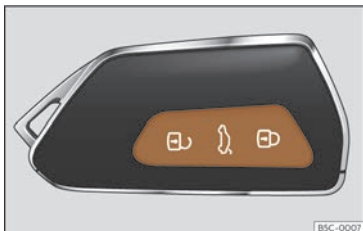

Fig. 70 Remote control key: keys.
- Lock: press the  >>> **Fig. 70** button.